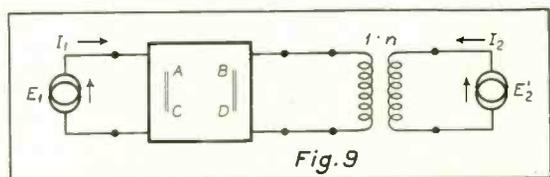

Fig. 9
An interesting example of the cascade connections is shown in Fig. 9. Here we have a four-terminal network connected to an ideal transformer.
By relations shown in equations (17) and (18) we can find the admittance and impedance matrices for the cascade connection of Fig. 9 as follows: